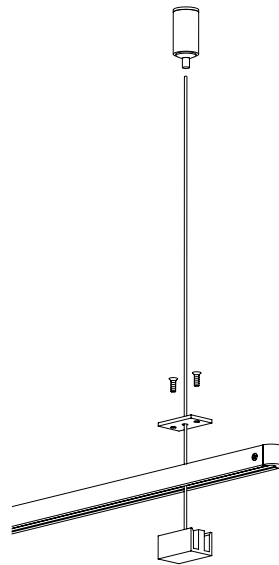

Fig. 2
2. Pass the Ceiling Hanger cable through the Power Bar, then through the center hole of the cover, making sure the counter-sunk holes on the cover are facing up. Attach the cover to the Ceiling Hanger using the two small Phillips screws. (Fig. 2)